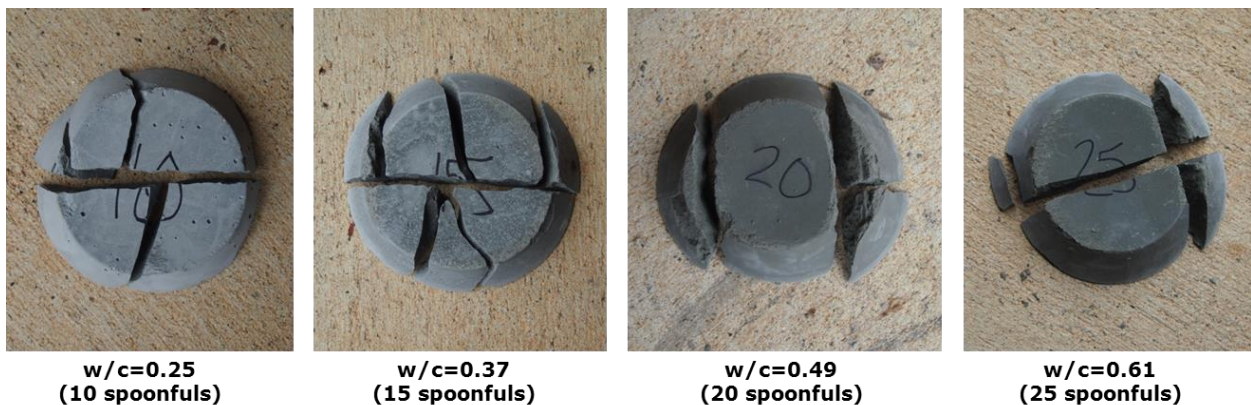

Figure 2. Pucks with different w/c ratios after dropping from a height of at least 15 feet.
21. Drop the pucks from a height of at least 15 feet. The top of a set of bleachers works well as long as the puck can fall on a hard, solid surface. The second floor or roof of a school building or a tall play set will also work. The pucks should be dropped in an "upright" position (how they were poured in the bowl). Try to drop the pucks as evenly as possible, as if you were dropping a bowl full of oatmeal and want it to land in an upright position so that nothing spills. Have students stand in a semi-circle at least 15 feet away from the point of impact so that everyone can see what is happening. Figure 2 shows pucks with different w/c ratios after dropping from a height of at least 15 feet.